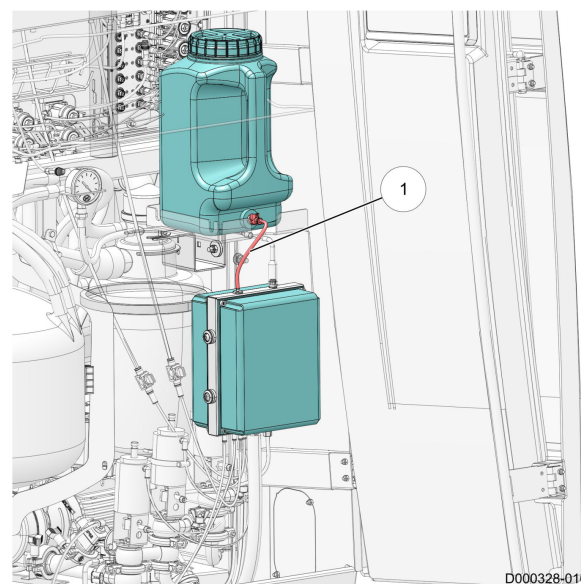

Figure 26. Reagent container
2. Disconnect the reagent supply tube (1) with connector from the safety valve of the reagent container (see figure 26 on page 5-13).
3. Disconnect the reagent supply tube (1) from the MQC-C.
5. Connect the reagent supply tube (1) to the MQC-C.
6. Connect the reagent supply tube (1) to the safety valve of the reagent container.